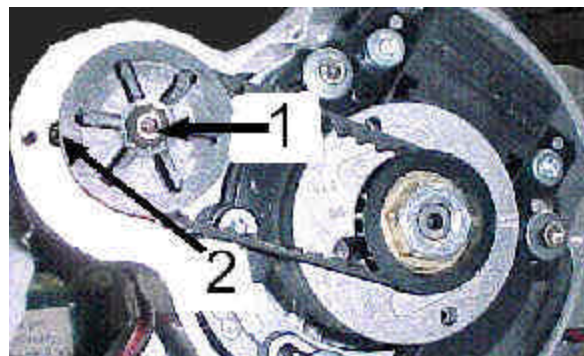

Figure 2
7. Remove ignition cover using a 9/64" hex key. (4) places
8. Remove belt retainer screw using a 1/8" hex key. (Figure 2 – item 1)
10. Remove bearing retainer screw using a 3/32" hex key. (Figure 2 – item 2)